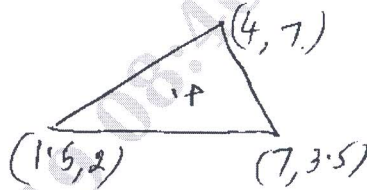

Fig.Q5(a)
- 5 a. Evaluate shape function of N_1, N_2, N_3 for a triangular element shown in Fig.Q5(a) at point P where coordinates are (3.85, 4.8). (06 Marks)